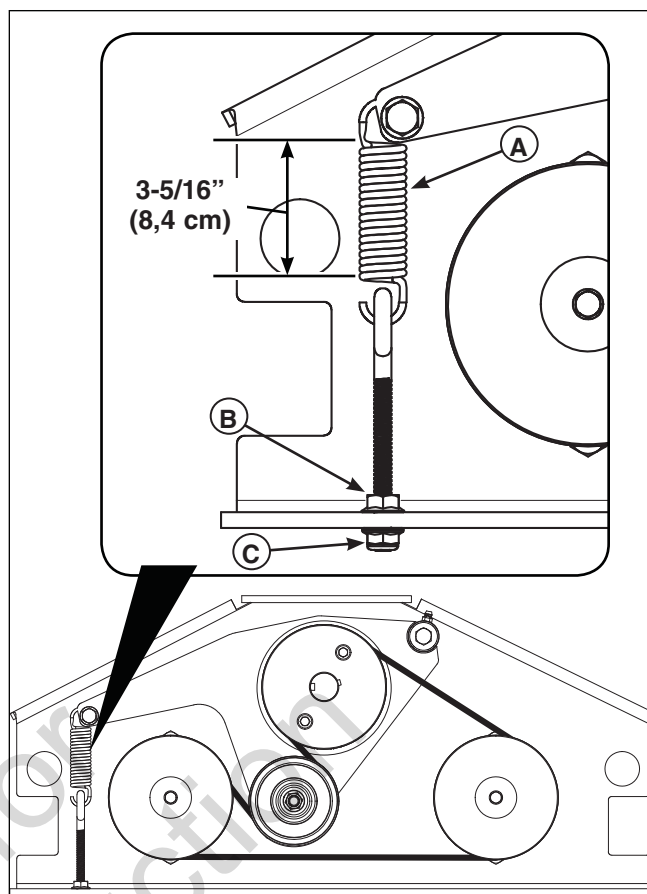

Figure 60. Idler Arm Spring Adjustment
1. Measure the coil length of the idler arm spring (A, Figure 60) as shown in Figure 60. The measurement should equal 3-5/16" (8,4 cm).
2. If the measurement does not equal 3-5/16" (8,4 cm) loosen the jam nut (B) and turn the nylock flange nut (C).